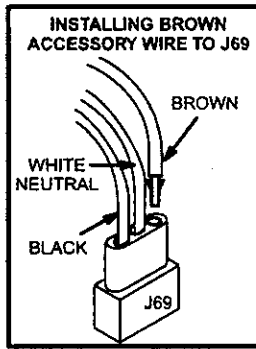

FIGURE 25
- An optional 120 volt accessory wire is provided with G32 units. Install the brown accessory wire into J69 jack plug by inserting the pin of the brown wire into the open socket of the jack. See figure 25. Any accessory rated up to 4 amps can be connected to this wire. Connect the neutral leg of the accessory to the neutral white wire in the make-up box. The accessory terminal is energized whenever the blower is in operation.